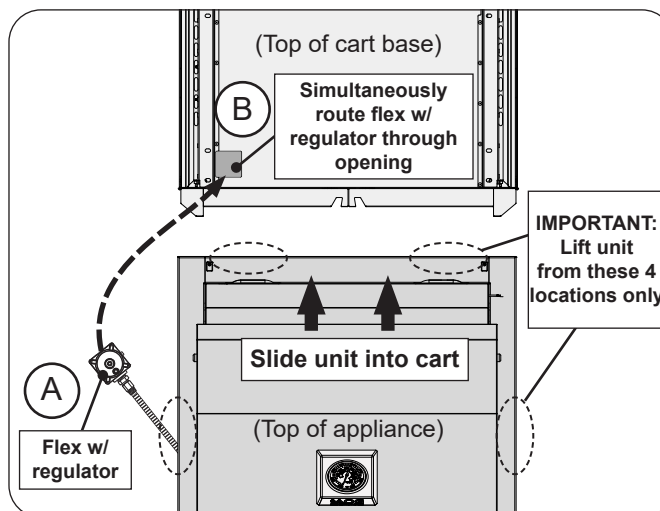

Fig. 10-3 Begin appliance installation
DO NOT lift the unit from the front panel when installing. Lift only from the designated areas shown on Fig. 10-3.
1. Using 2 people minimum, carefully lift and place the rear end of the appliance over the cart opening and begin to slide the unit inward. **DO NOT SLIDE THE UNIT IN COMPLETELY!** **While installing** (Fig. 10-3, A), be sure to simultaneously route the flex connector with regulator downward through the rectangular opening on the front left portion of the cavity floor. See Fig. 10-3, B.
Note: Only lift the appliance from the locations indicated on Fig. 10-3. Do not lift the unit from the front panel.